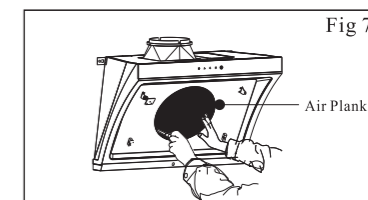

Fig 7
- d. Unscrew the screws of air plank. (Fig 7)